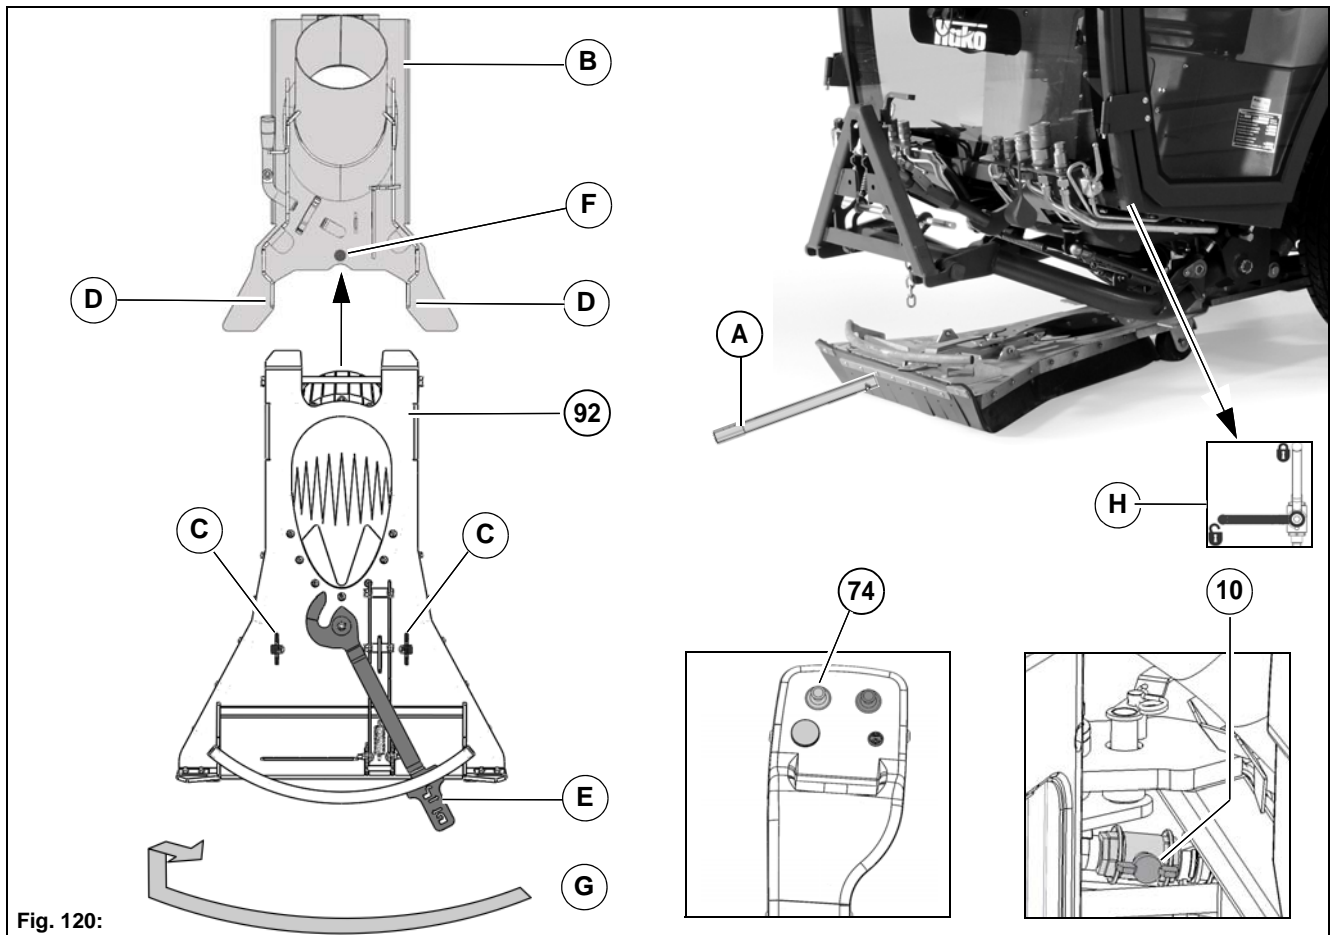

Fig. 120:
3. Position the suction mouth Fig. 120-92 by hand or with the auxiliary tool Fig. 120-A centrally under the holding plate Fig. 120-B.
4. Open the valve Fig. 120-H. Push the joystick Fig. 120-74 forwards. When the valve is open, the holding plate is lowered onto the suction mouth.
5. Shift the suction mouth centrally under the holding plate until the stops Fig. 120-C come up to the points Fig. 120-D.
6. With the lever Fig. 120-E lock and secure the suction mouth on the counter bearing Fig. 120-F of the holding plate, see sketch Fig. 120-G.